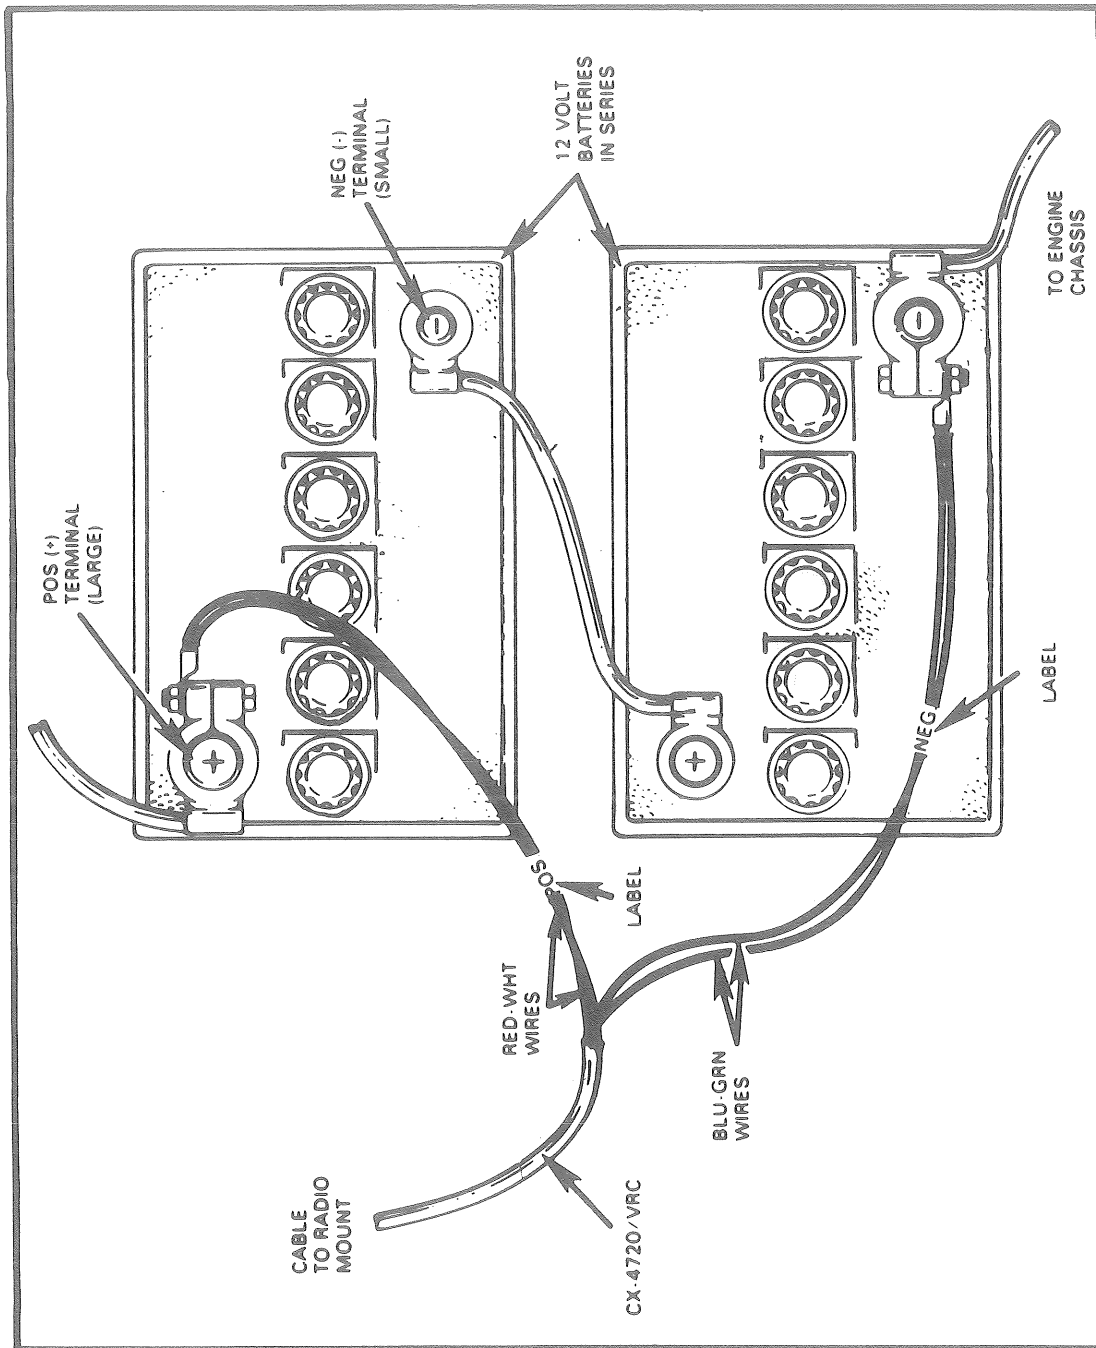

Figure 6. Connecting CX-4720/VRC to vehicle battery
- n. Secure CX-4720 terminal lug with red/white wires to positive (+) terminal of vehicle battery. (Refer to fig 6.)
- o. Secure CX-4720 terminal lug with green/black wires to negative (-) terminal of vehicle battery. (Refer to fig 6.)